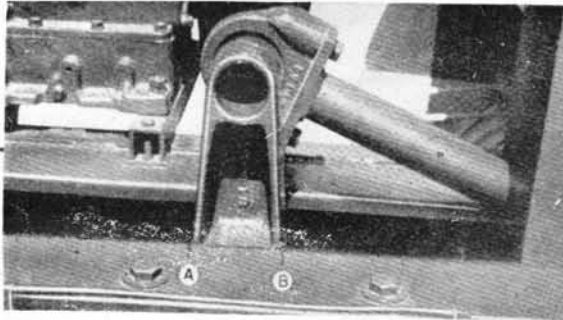
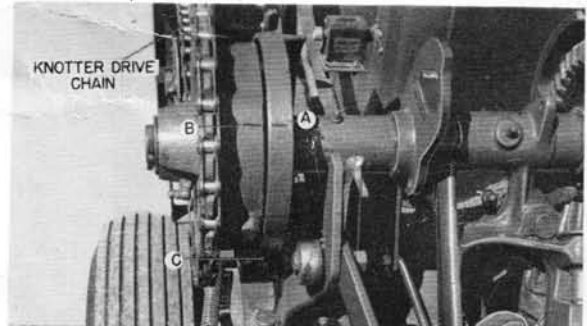

FIGURE 23
FIGURE 25
Turn the flywheel until the main crank is in a vertical position as shown in Figure 23.
This position is marked by two small arrows stamped into the bale chamber at points A and B, Figure 23.
3. Turn the flywheel until the main crank is in a vertical position as shown in Figure 23.
This can be checked very easily by means of timing marks provided on the Model 68 Baler. To check—rotate the flywheel until the main crank is in a vertical position as shown in Figure 23. Be certain the knotter clutch pawl is tight against the knotter stop, see C, Figure 25.
At this time the marks at points A and B Figure 25 should align within  $\frac{1}{2}$  inch.
2. Turn the flywheel counter-clockwise until the crank is in a vertical position between the timing marks, "A" and "B" (Figure 23) on the upper side of the bale chamber.
4. Turn the knotter clutch gear until the timing marks of the knotter clutch and the knotter clutch disc are directly opposite each other as shown (point A and B, Figure 25).